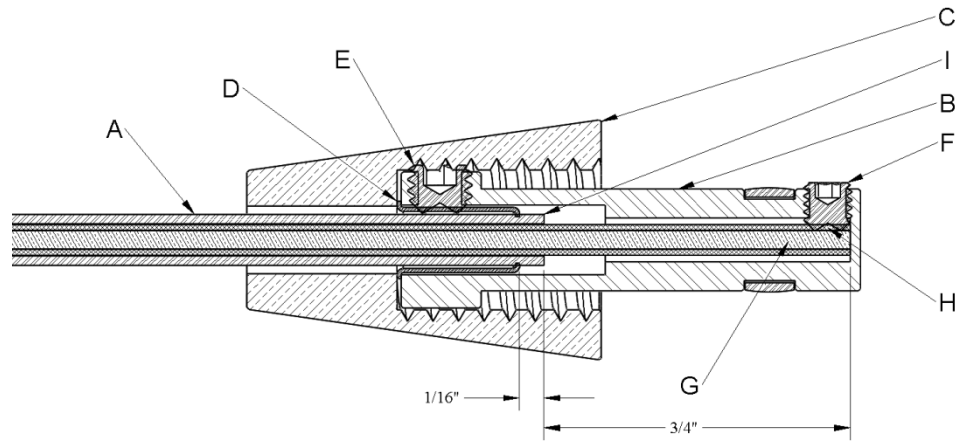

Figure 1 - Coaxial Cable and Connector Assembled
To Install Track Adapter (Figure 1)
(Figure 1)
1. The outer braided shield (I) of the coaxial cable (A) is stripped back 3/4" as shown in Figure 1.
2. The M3 Set Screw (F) is tightened until “Tight”, when the 1.5MM Allen Wrench starts to flex.
3. The M4 Set Screw (E) is tightened inward until it no longer causes an interference with the Conical Nipple (C). It will begin to crush the Strain Relief Tube (D).